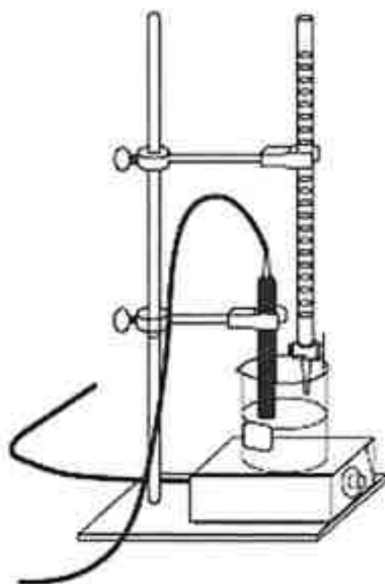

Figure 2: Titration equipment set up.
A sample setup for a titration is shown in Figure 2, where a buret containing the titrant is clamped to the support stand and a beaker or flask containing the analyte is set atop a stir plate. If a pH probe is inserted into the solution, a titration curve can be constructed by plotting the pH of the solution on the y -axis versus the volume of titrant added on the x -axis. The shape of the titration curve may be used to distinguish strong and weak acids in the analyte, and also permits graphical analysis of the equivalence point. At the equivalence point, moles of added titrant are stoichiometrically related to moles of analyte in the sample.
5. Review the setup shown in Figure 2 for a titration procedure.